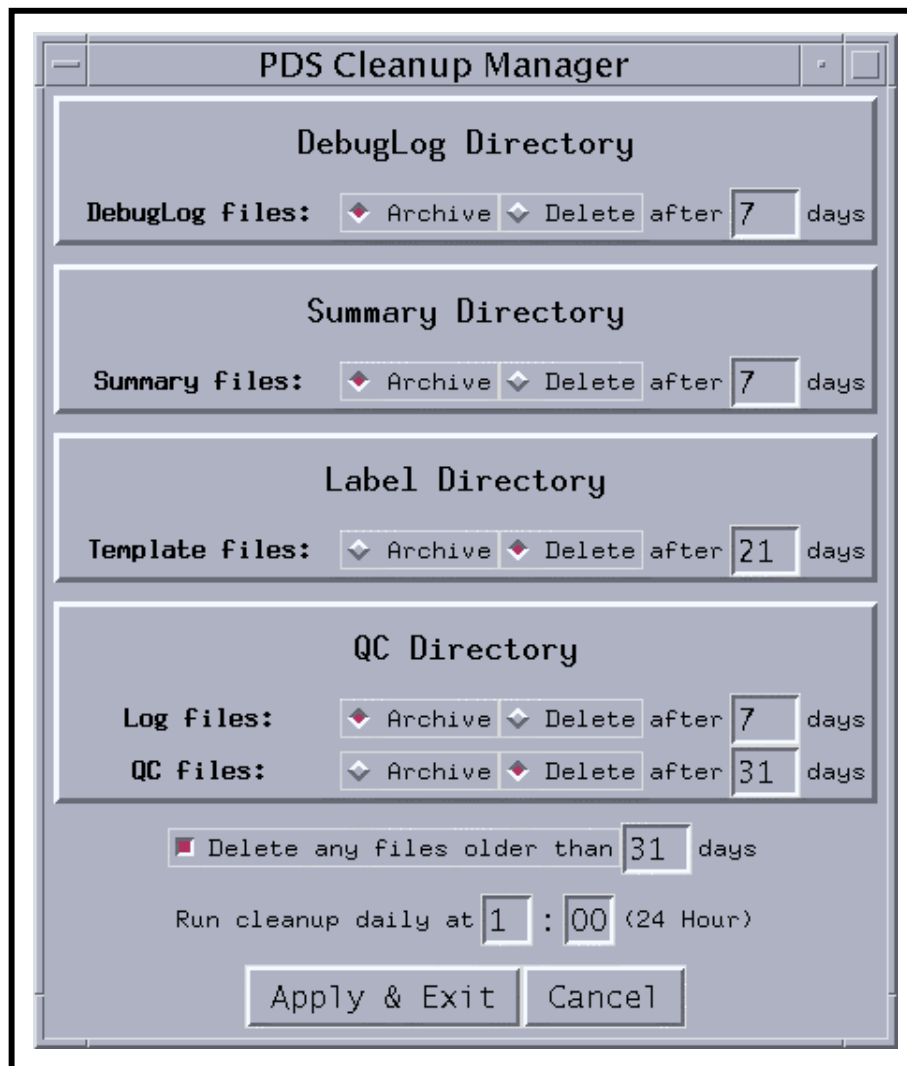

Figure 104. OM PDS Cleanup Manager
- The **OM PDS Cleanup Manager** (Figure 104) is displayed.
- The **OM PDS Cleanup Manager** GUI (Figure 104) is dismissed.